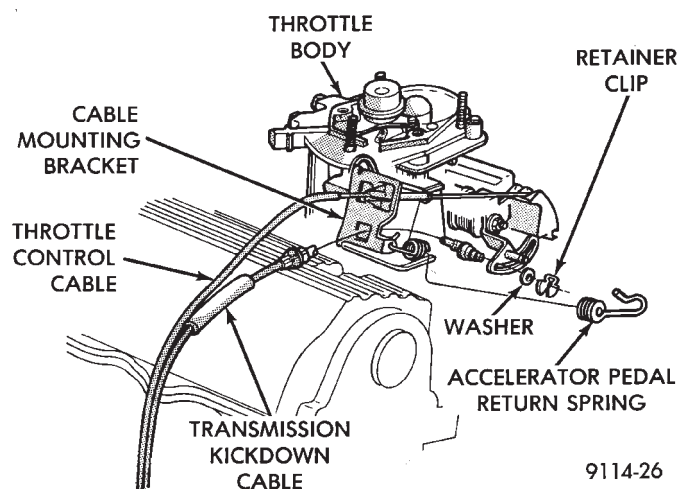

Fig. 3 Throttle Cable Attachment to Throttle Body—TBI Engine
(1) Working from the engine compartment, hold throttle lever in the wide open position and remove the throttle cable from the throttle body cam (Fig. 3, 4, 5, 6 and 7).